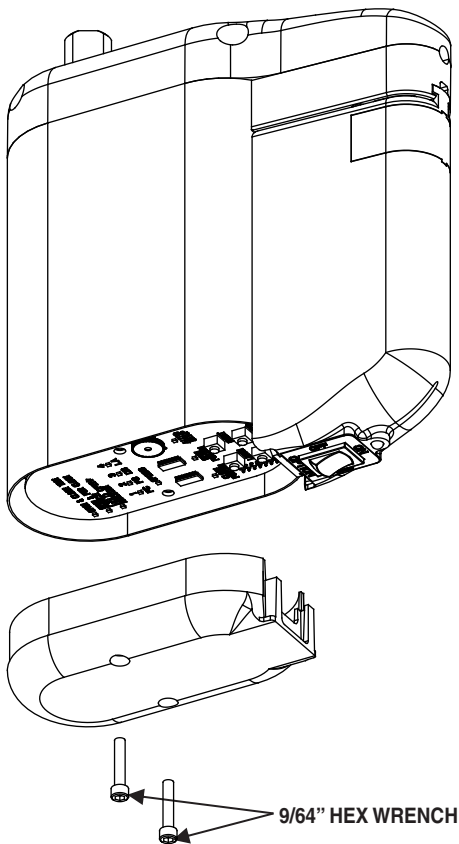

Figure 2
1. Refer to Figure 2 and Remove the bottom cover from the door operator to access the Setup board.